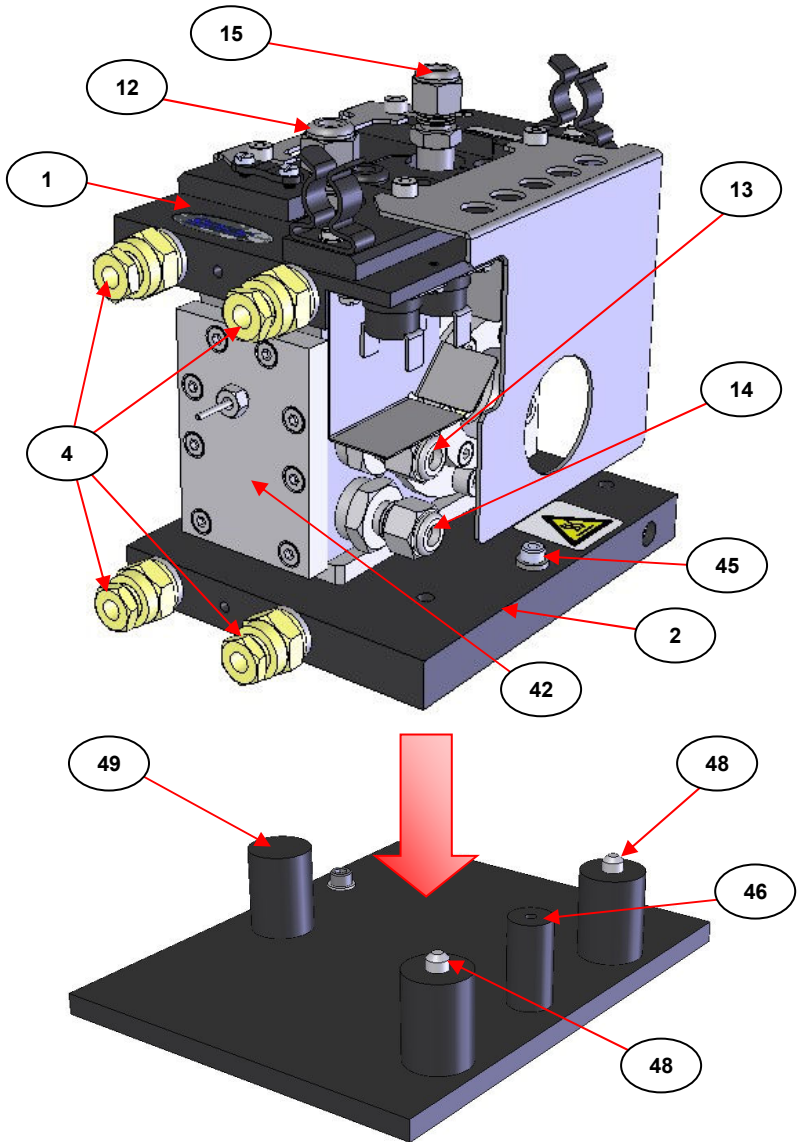

Fig 24. Fixing of the HTHP Cell to the Transmission Baseplate
When the HTHP Cell has been fitted onto the transmission baseplate correctly, the orientation of the HTHP Cell will be upright as shown in **Fig 24**. The water fitting connections (4) on both the top (1) and lower (2) water cooled plates will be facing out towards the front of the spectrometer sample compartment for ease of access to introduce the water cooling tubing.
The transmission baseplate mount provides correct spatial positioning of the HTHP Cell for the beam of IR radiant light from the spectrometer system to pass centrally through the pressure certified window assemblies (11) in a 180° (straight through) orientation from the source to detector for either a left to right or right to left beam passage through the sample compartment. It depends on which end of the HTHP Cell body (3) the heater block assembly's (10) end plate (38) and wiring strap (37) have been affixed that determines if the HTHP Cell has been installed on its baseplate for transmission or decomposition studies to the HTHP Cell. As shown in **Fig 24**, the end plate (42) is seen fitted to the HTHP Cell body (3) on the end that will be facing outwards from the spectrometer sample compartment and so from this build configuration the HTHP Cell is used for the **decomposition** mode of operation.